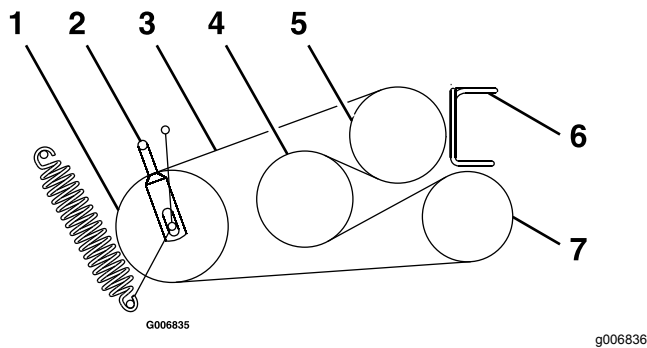

Figure 56
6. Loosen belt guides **A** and **B** (Figure 56).
8. Route the new belts onto the pulleys as shown in Figure 56.